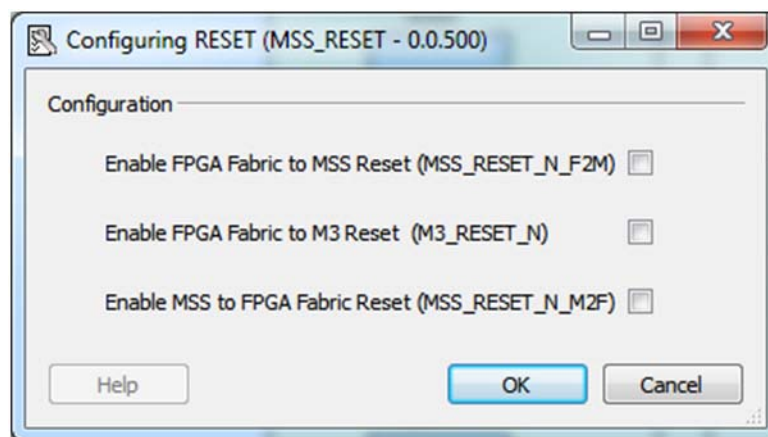

Figure 1 • MSS RESET Controller Configurator
- **Enabling FPGA Fabric to MSS Reset (MSS_RESET_N_F2M)** - You can reset the entire MSS by asserting the FPGA fabric to MSS reset signal MSS_RESET_N_F2M. On the assertion of MSS_RESET_N_F2M reset the reset controller generates SYSRESET_N which resets the MSS. Refer to the Microsemi SmartFusion2 User's Guide for more details. You can enable the MSS_RESET_N_F2M signal in this configurator. The MSS_RESET_N_F2M signal is then available to be used in the design (Figure 1).